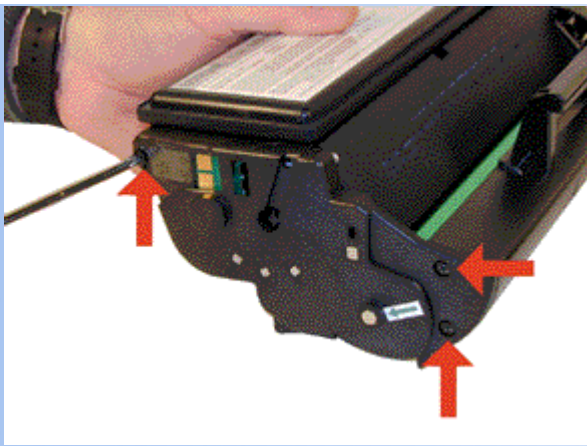

FIGURE 2
1. On the left side of the cartridge (Chip Side) remove the 3 screws. See Figure 2